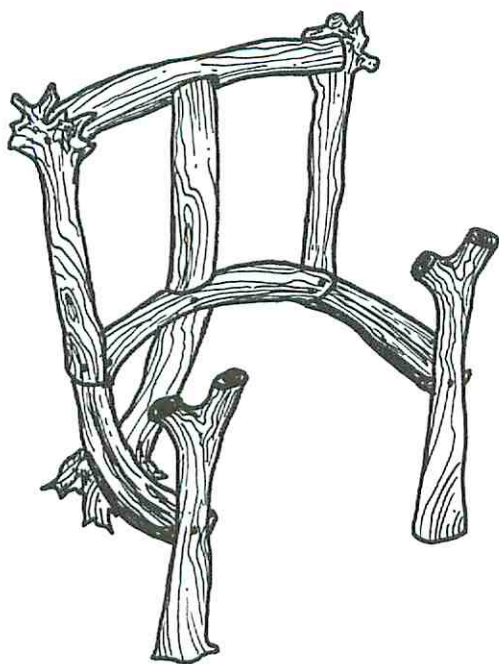

Figure 4
Get the pieces you’re using for your front legs (E). Determine the appropriate height where they should be attached to the “U” – about 18” from the base of each leg. See Fig. 4. Predrill holes for the bolts. Make whatever cuts are necessary to the front of the “U” so it will fit securely to the front legs. Bolt together using lag bolts.
To finish the frame for the back of the seat, you’ll need to mirror-cut the piece you chose for the back verticals (F). Predrill holes and use lag bolts to attach the verticals to the “U” and back support. Once again, see Fig. 4 for a visual.